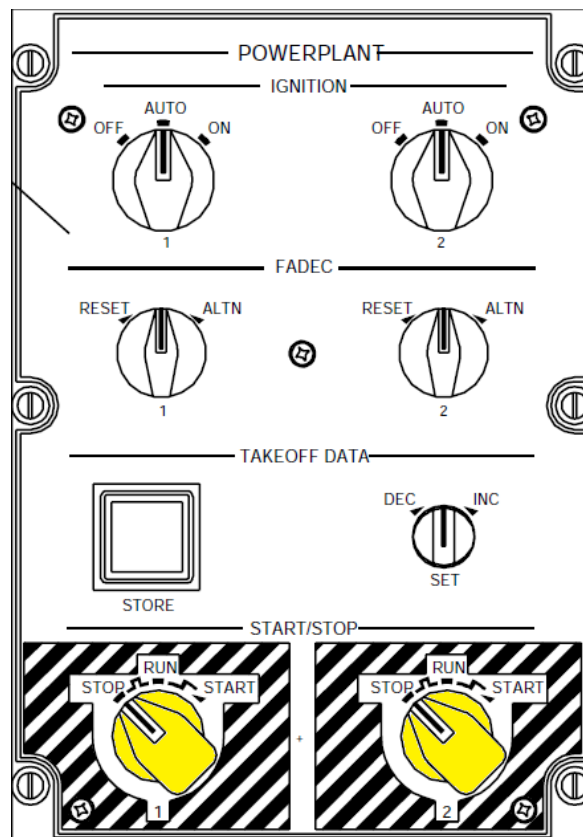

Figure 6 – EMB-135/145 Powerplant panel (typical) – Engine Start/Stop switches are highlighted
- a) Set the switch (see Figures 6 and 7 above) to the initial position indicated in Table 3 below: